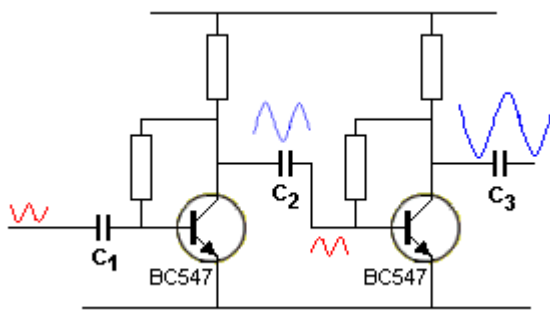

Fig 12.
Fig 12 shows the signal (the voltage waveform) as it passes through 2 stages. Note the loss in amplitude as the signal passes through capacitor C2.
1. **direct coupling** - also called **DC coupling** (not the coupling shown in fig 12. Fig 12 is AC coupling). DC stands for Direct Current. I know this sounds unusual, but it is the way to explain the circuit will pass (amplify) DC voltages. This type of coupling will pass both AC signals and DC voltages. When the DC voltage moves up and down (even at a slow rate) we call it an AC voltage or AC signal or a rising and falling voltage and when it rises and falls faster, we call it a "signal" or waveform.
Fig 12 shows two stages with a capacitor coupling the output of the first to the input of the second. This is called **Capacitor Coupling** or **Resistor-Capacitor Coupling (RC Coupling)**.